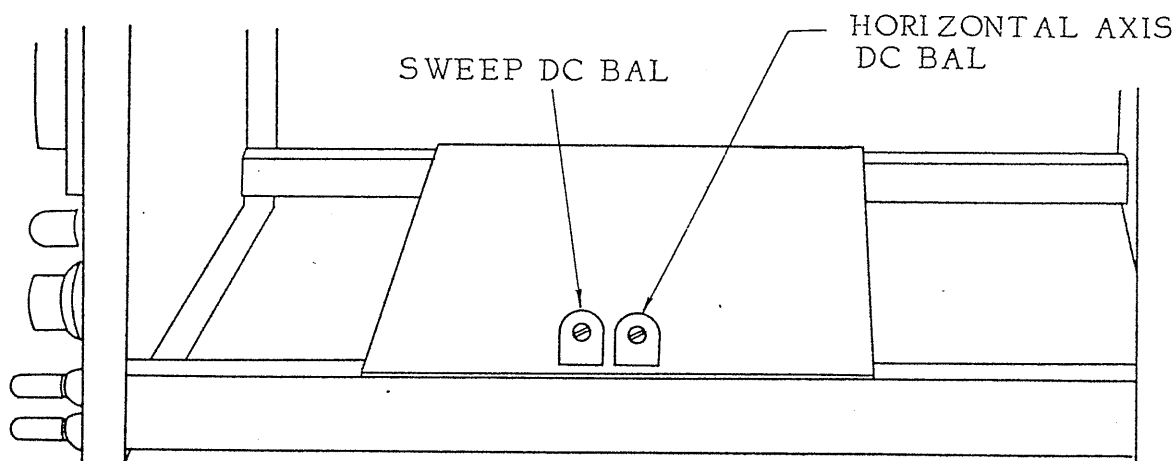

Fig. 12
- (1) Set the SWEEP RANGE switch to the EXT position to stop the internal sweep, and set the spot on the CRT screen to the center of the scale.
- (2) Reset the SWEEP RANGE switch to the 100 Hz ~ 1 kHz range position. Do not move the HOR POSITION knob thereafter.
- (3) Set the SWEEP RANGE VARIABLE knob to a middle position.
- (4) Set the SYNC SELECT switch to the EXT position.
- (5) Set the trace to the center of the scale by adjusting the SWEEP DC BAL controlling semi-fixed resistor shown in Fig. 12.